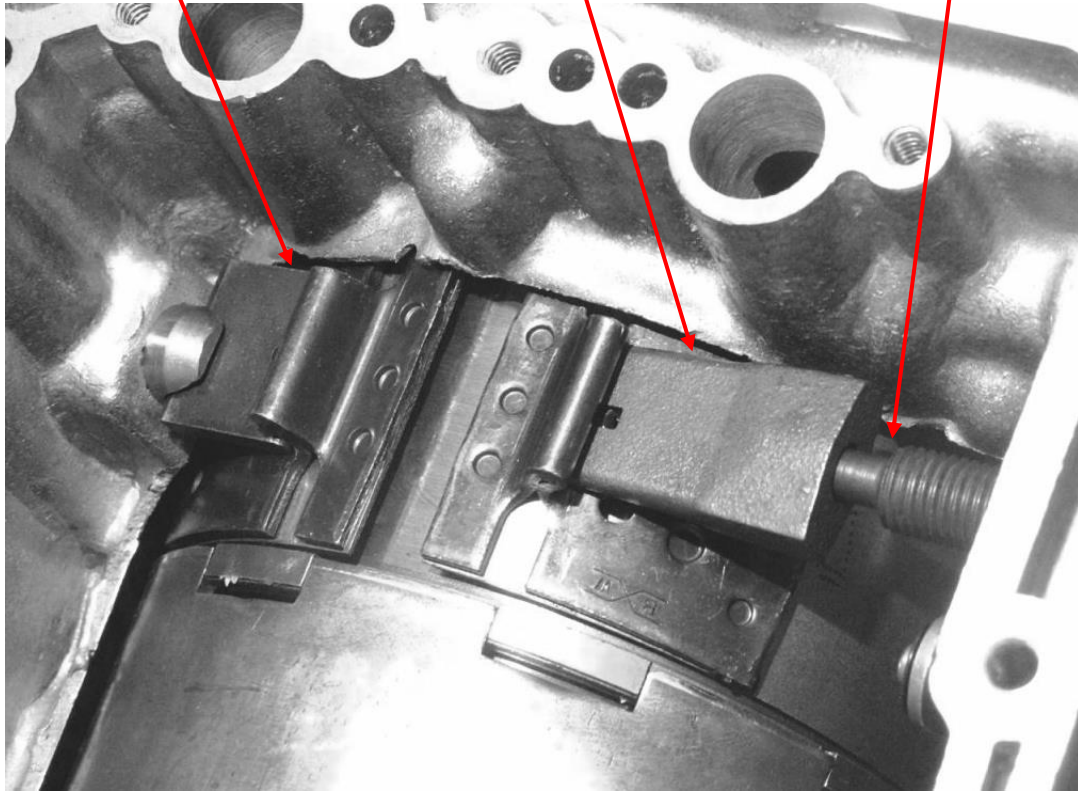

Figure 6
9. Ensure the apply strut is located in the servo pin and the anchor strut is connected to the adjustment bolt seen in figure 6.